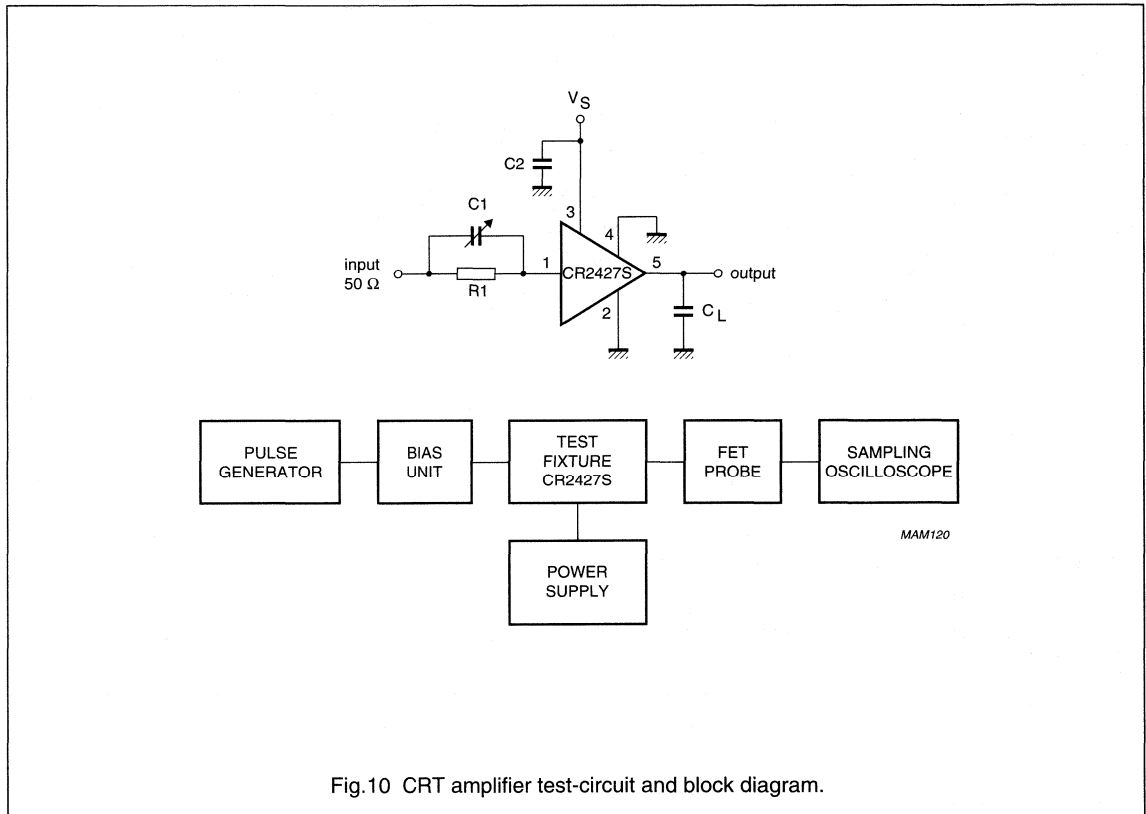

Fig.10 CRT amplifier test-circuit and block diagram.
- Input signal is a nominal 100 kHz square wave of 3.25 V (p-p), with 1.5 V (DC) offset (50 Ω source).
- Input signal is a nominal 100 kHz square wave of 3.4 V (p-p), with 1.65 V (DC) offset (50 Ω source).
- Measured V_O/V_I (Figs 2 and 6) at input test circuit (see Fig.10).
- Measured V_O/V_I (Figs 3 and 7) at input module (see Fig.10).
40 V (p-p) output swing with 30 V (DC) offset (see Fig.10).
Components used in test-circuit (see Fig.10)
Equipment used in test-circuit (see Fig.10)